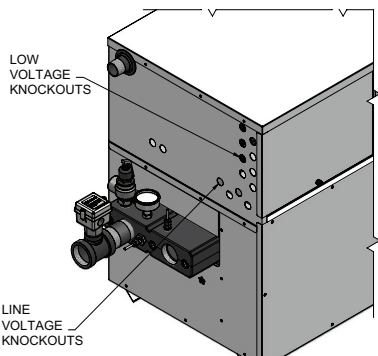

Figure 5-2 Routing Field Wiring
1. Route all low voltage wires through the knockouts on the left side of the heater, as shown in FIG. 5-2.